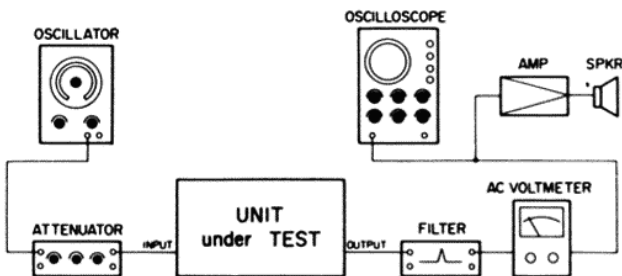

Figure 6-8. Erasure Test Connections
1. Connect test equipment to the input and output of the channel being tested as shown in Figure 6-8.